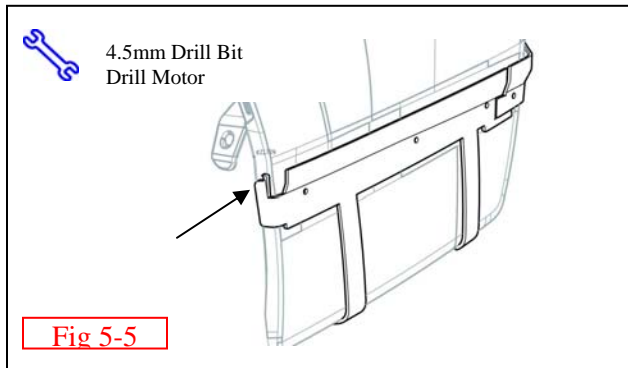

Fig 5-5
- (i) Using bracket locating feature on the fender well side as a drill guide, drill 4.5mm hole in both fenders (Fig 5-5); drill through both pieces of plastic.